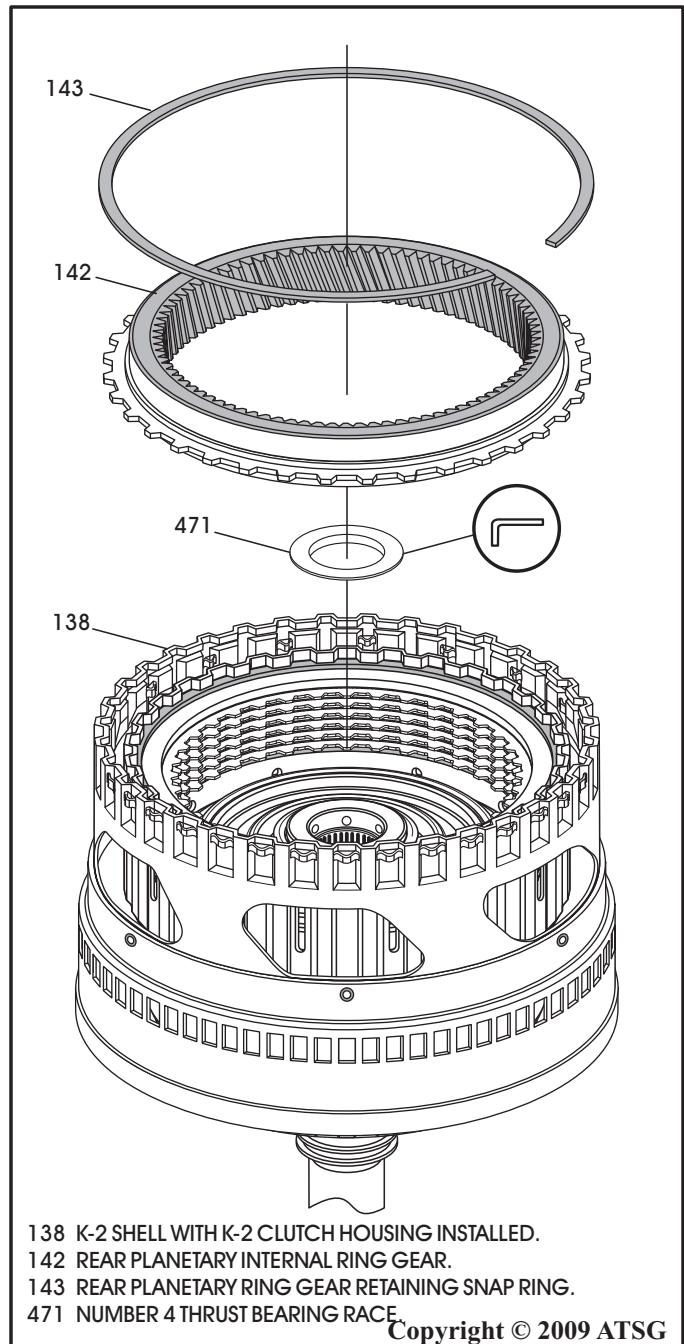

Figure 118
35. Install the rear planetary ring gear and snap ring, as shown in Figure 118.
36. Install the number 4 thrust bearing race onto K-2 clutch housing, as shown in Figure 118 and retain with small amount of Trans-Jel®.